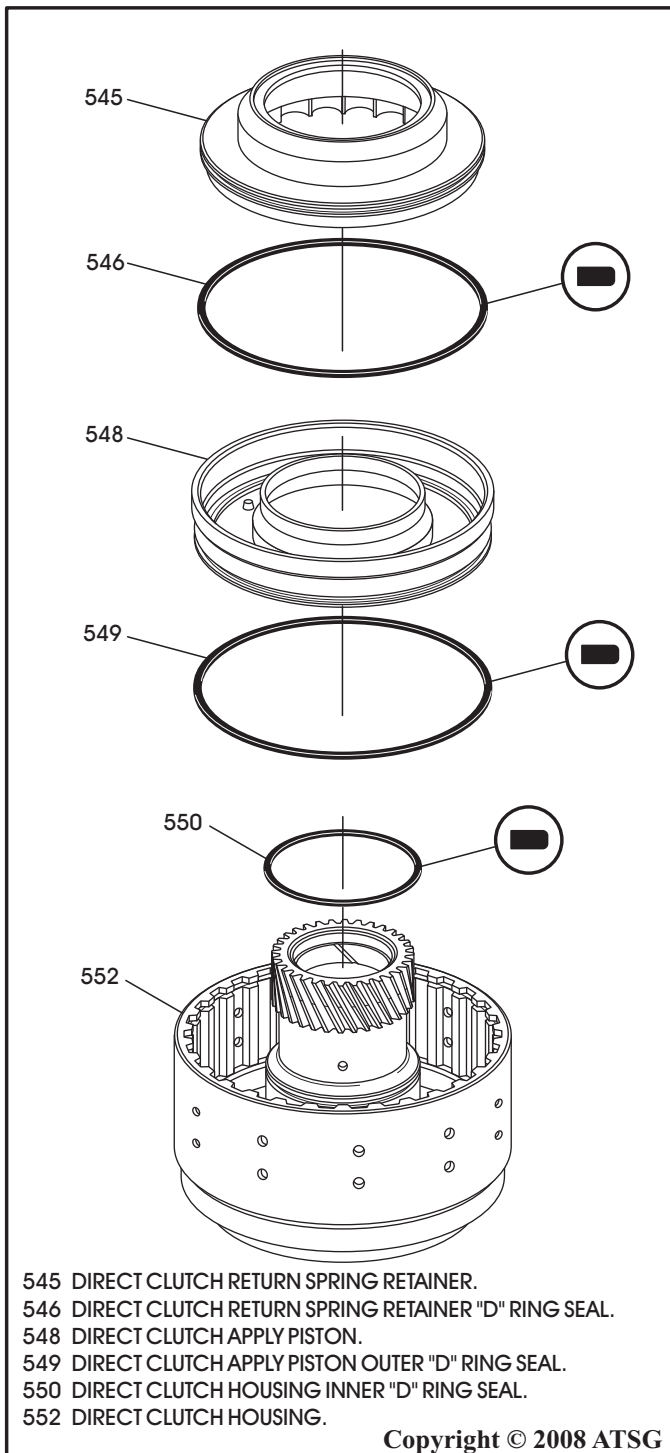

Figure 138
4. Install new "D" ring seals on both pistons and in the direct clutch housing (See Figure 138).